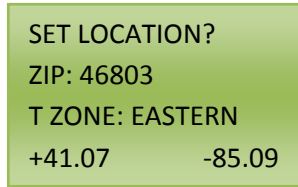

Figure 14.1
- a. This Action allows for the location where the panel is to be set. This will allow the SUN UP and SUN DOWN function to be used (this is found under the Events Menu). The only option that will need to be changed is the ZIP option. Press the RIGHT Arrow to move the cursor over to the Zip Code. Use the UP or DOWN Arrow to change the numbers of the Zip Code. Make sure to press ENTER to save the information. See Figure 14.1 for a visual example.